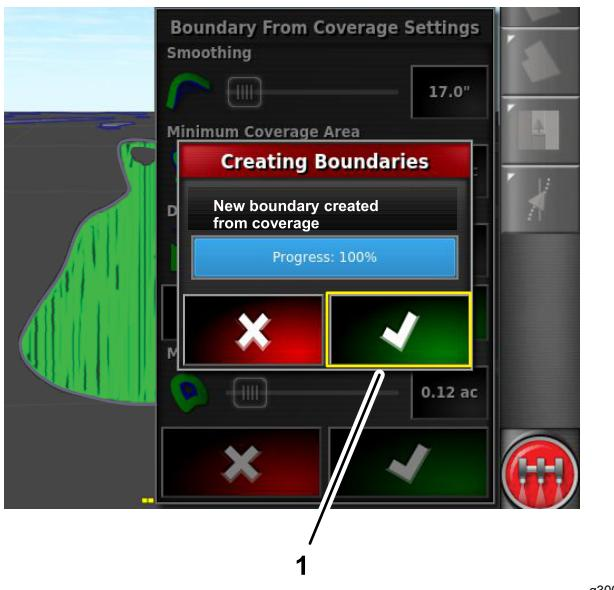

Figure 55
8. Press the conform icon for the Boundary from Coverage Settings dialog box Figure 55).